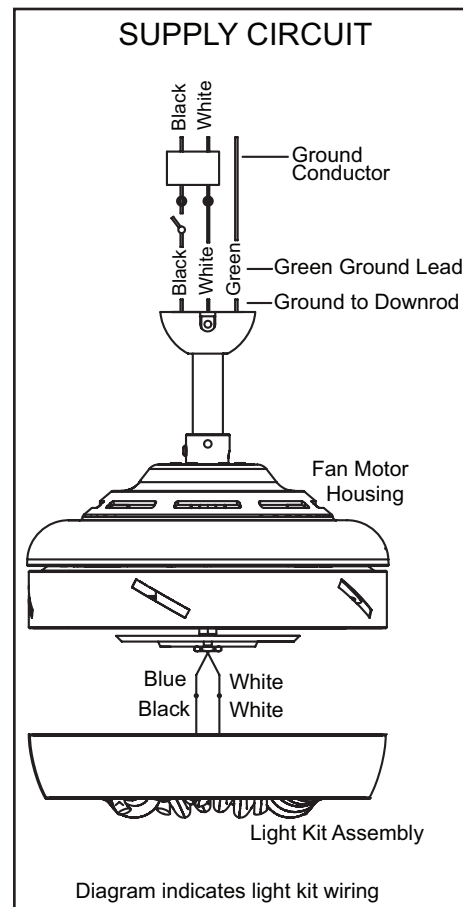

Figure 13
Step 1 Connect the fan supply (black) wire to the black household supply wire as shown in Figure 13.